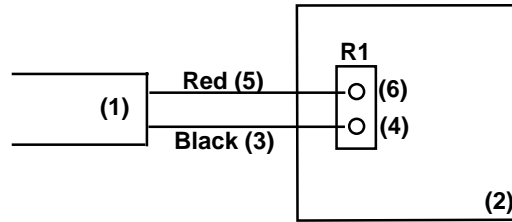
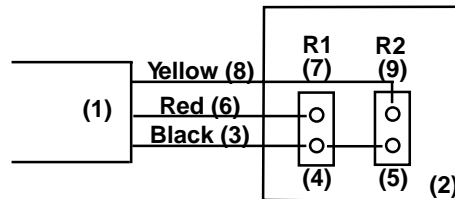
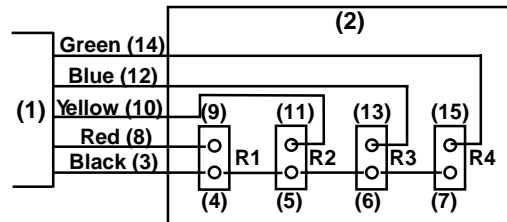

Fig. 4. One line control.
Fig. 5. Two line control.
Fig. 6. Four line control.
- (1) 1-Line *Level Logic* Control (valve rotation only, the simplest control):
- (b) Wiring the *interface cable* (1) to the instrument (2) with 1-*line control* (see Fig. 4):
- (i) Connect the black wire (3) to the *ground terminal* (4) of the instrument event relay R1.
- (ii) Connect the red wire (5) to the control line (6) *terminal* of the instrument event relay R1.
- (iii) See the Operation section (VI) for typical commands and examples of programming with this type of control.
- (2) 2-Line *Level Logic* Control (controls the rotation of the valve on the first line and direction on the second line):
- (b) Wiring the *interface cable* (1) to the instrument (2) with 2-*line control* (see Fig. 5):
- (ii) Connect the jumper wire (supplied) from the *ground terminal* (4) of the instrument event relay R1 to the *ground terminal* (5) of the instrument event relay R2.
- (iii) Connect the red wire (6) to the control line (7) *terminal* of the instrument event relay R1.
- (iv) Connect the yellow wire (8) to the control line (9) *terminal* of the instrument event relay R2.
- (c) See the Operation section (VI) for typical commands and examples of page numbering programming with this type of control.
- (1) 1-Line *Pulse Logic* Control (valve rotation only, the simplest control):
- (b) Wiring the *interface cable* (1) to the instrument (2) with 1-line control is exactly the same as in *level logic* control (see Fig. 4).
- (2) 2-Line *Pulse Logic* Control (controls the rotation of the valve on the first line and direction on the second line):
- (b) Wiring the *interface cable* (1) to the instrument (2) with 2-line control is exactly the same as in *level logic* control (see Fig. 5).
- (ii) Connect the jumper wire from the *ground terminal* (4) of the instrument event relay R1 to the *ground terminal* (5) of the instrument event relay R2.
- (c) See the Operation section (VI) for typical commands and examples of programming with this type of control.
- d) 4-line *BCD* control. The instrument used to control this model must have four (4) *TTL* or *contact closure outputs*. This method of control ensures direct access to the chosen valve position.
(1) 4-Line *BCD* Control (independent selection of any position):
- (b) Wiring the *interface cable* (1) to the instrument (2) with 4-line *BCD* control (see Fig. 6):
- (c) Wiring the *interface cable* to the instrument with 1-*line control* (see Fig. 4).
(2) 2-Line *Level Logic* Control (controls the rotation of the valve on the first line and direction on the second line):
- (d) Wiring the *interface cable* to the instrument with 2-line *control* (see Fig. 5).